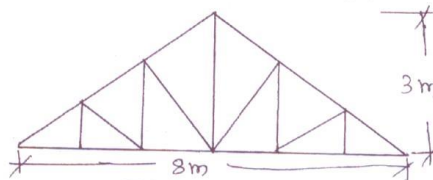

Fig.Q10
- 10 Find the self weight or dead load of the truss shown in Fig.Q10 and support reactions for self weight using ISA 75×75×10 (wt. per meter 11 kg/m) as truss members; the truss span is 8 m with 6 divisions and height 3 m. (20 Marks)